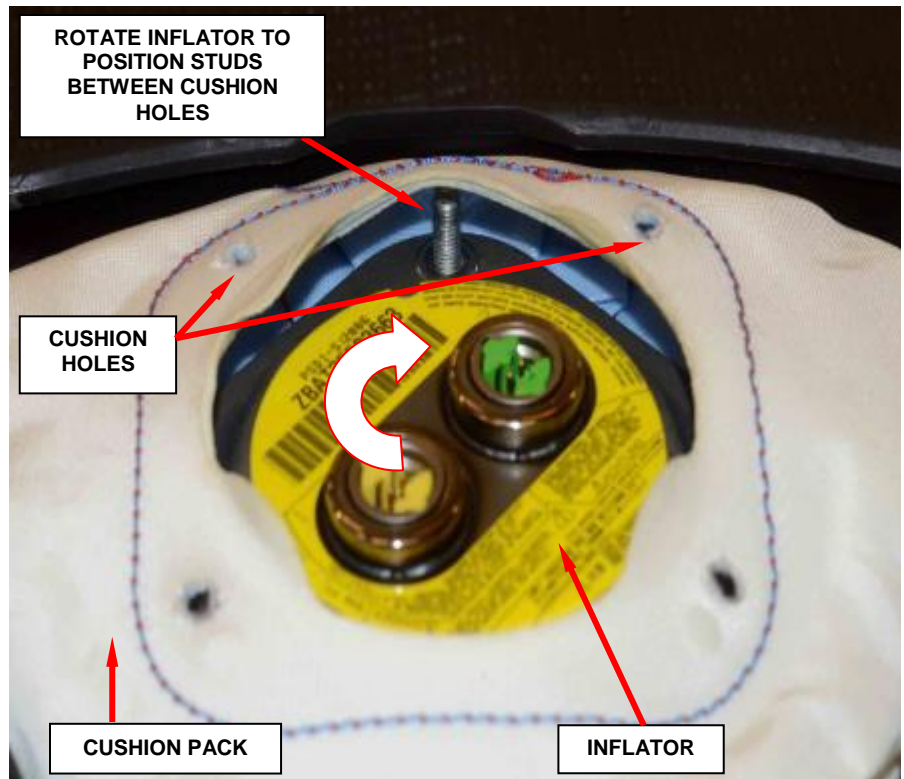

Figure 9 – Rotate Inflator
- d. While the inflator is still in the cushion pack and out of the cushion holes, rotate the inflator slightly (15 -45 degrees) (Figure 9).